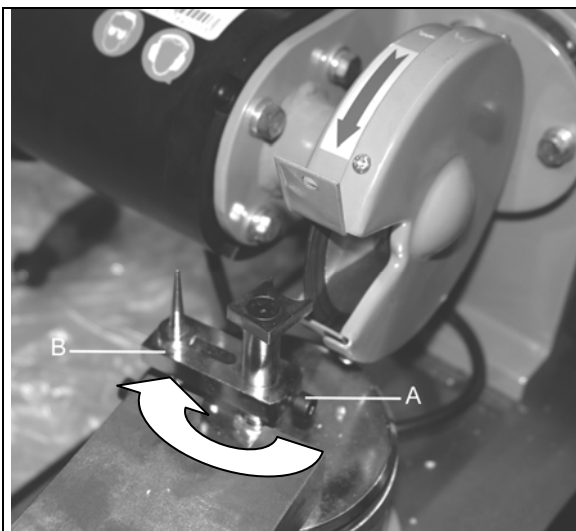

Fig. 9A
**Caution:** To make turn of the tool slide in the position correct for grinding roof-like cutting edges, it is necessary to turn the stop needle to the motor side. (Fig. 9A)
To do that, socket screw should be loosened up (Fig. 9A-A) and the stop needle turned on the side of motor.